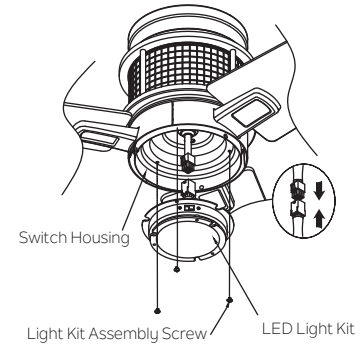

Fig. 16
Step 1. Remove three(3) screws preinstalled on outer side of switch housing and keep for use later. (Fig. 16)
Step 2. Attach the connector from the LED light kit to the connector from motor assembly.(Fig.16)
Step 3. Tuck the connections neatly into the light kit. Align three round holes on the light kit and switch housing. Securely tighten with 3 screws removed on step 1.(Fig.16)